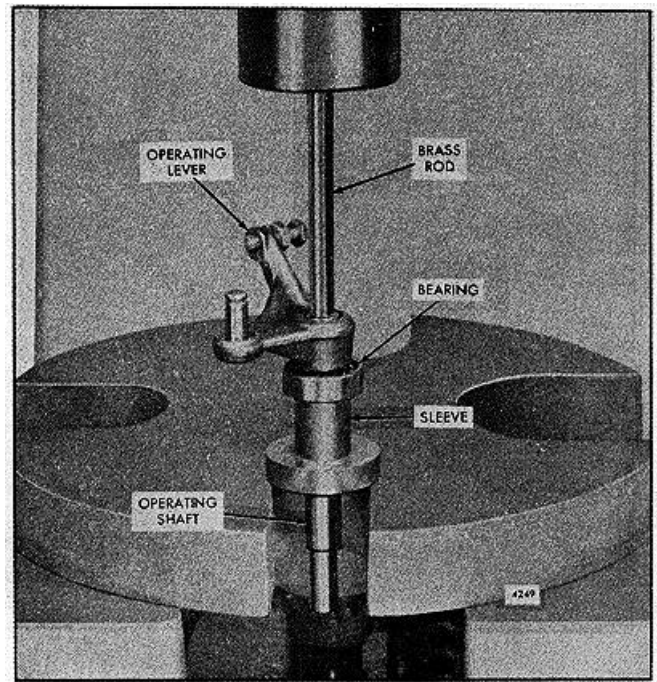

FIG. 17 - Removing Operating Lever and Upper Bearing from Operating Shaft
- k. Support the operating shaft, lever, bearing and sleeve on a large washer or plate, with a 5/8" hole, on the bed of an arbor press as shown in Fig. 17. Place a small brass rod on the end of the shaft and press the operating shaft out of the operating lever and bearing. Catch the shaft by